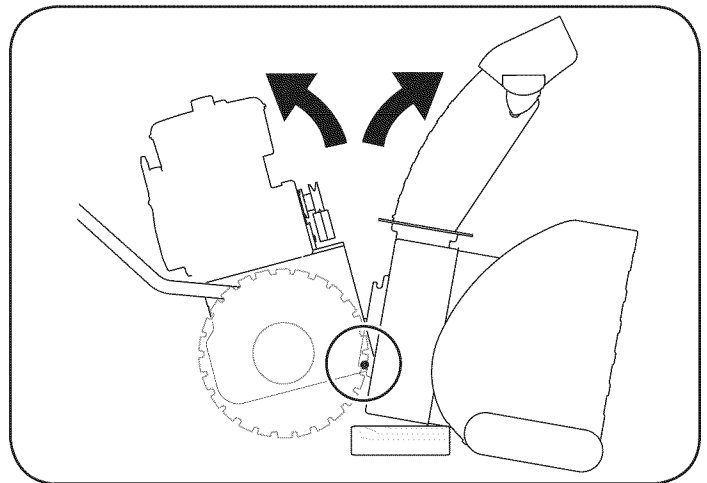

Figure 34
4. Place a block of wood underneath the auger housing as shown in Figure 34 and separate auger housing from the frame by tilting the housing forward and pulling up the handles.